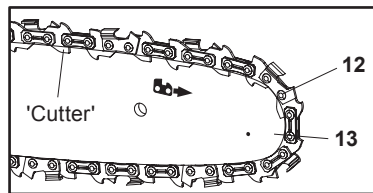

Fig. 2
4. Spread the saw chain (12) out with the cutting edges of the chain pointing in the direction of rotation.
Slide the saw chain (12) into the groove around the guide bar (13). Ensure saw chain (12) is installed in correct direction of rotation (Fig. 2).